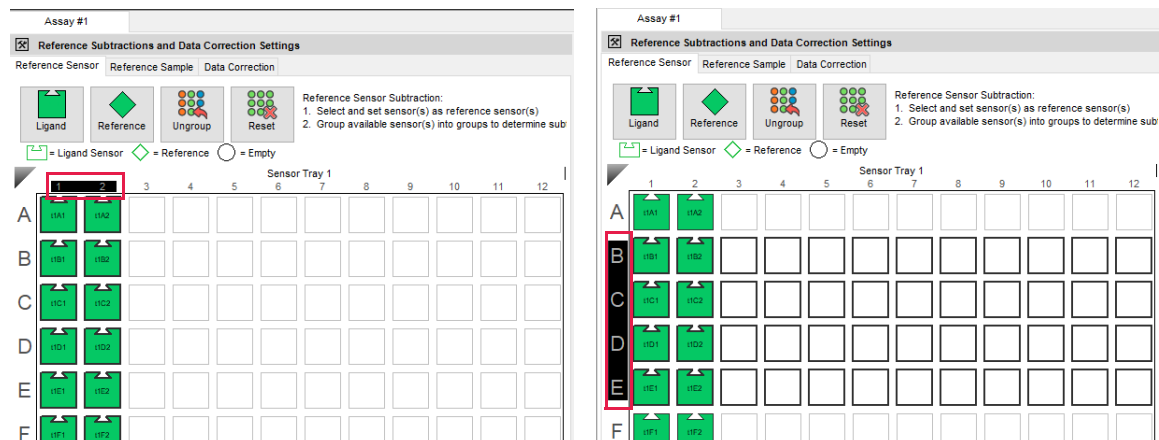

Figure 4-12: Selecting Multiple, Sequential Rows or Columns
- To view data for multiple sequential rows or columns, click the letter of the first row or the number of the first column you want to view, then hold the mouse and drag it across all the other row/columns you want to view (Figure 4-12).